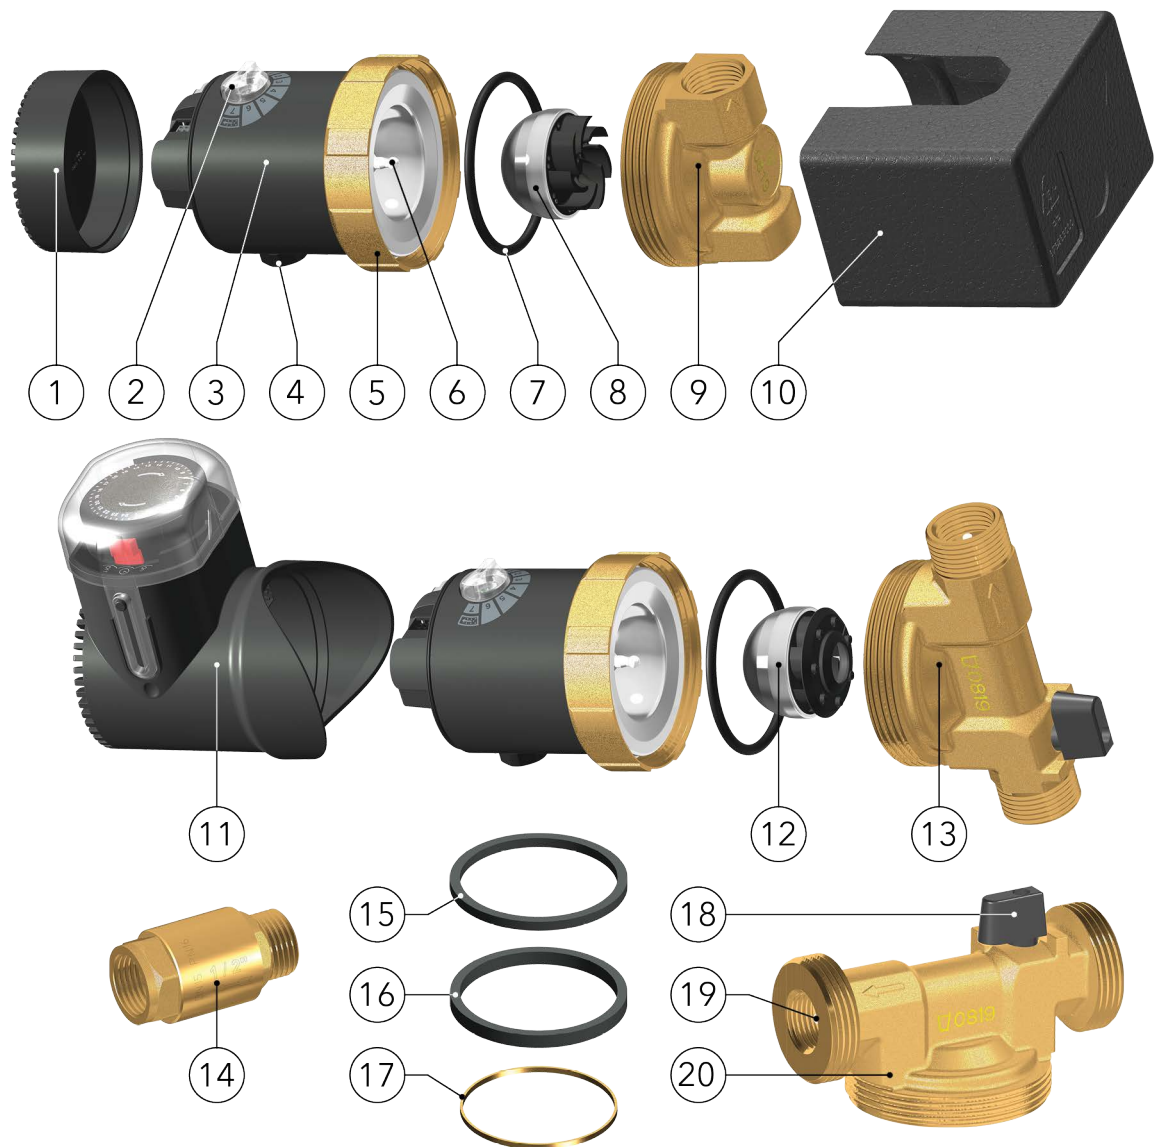

Figure 3
- When using pump models with pump housing code 65B (item 9 in **Figure 3**), use the G1/2 check valve (item 14 in **Figure 3**) supplied in the packaging. This prevents water from flowing through the pump backwards when any faucet is opened, thus causing damage.
- Pumps with pump housings code 110MB (item 13 in **Figure 3**) and code 110LB (item 20 in **Figure 3**) already contain an integrated check valve (item 19 in **Figure 3**) and a ball shut-off valve (item 18 in **Figure 3**) in the pump housings. (The check valve opens and closes automatically; the ball shut-off valve is closed when its handle is perpendicular to the pipe direction).
- With the shut-off valve closed at the suction side of the pump and with the check valve installed at the discharge side, the union nut (item 5 in **Figure 3**) can be loosened, thus the pump motor can be turned in proper position, or even removed for maintenance without completely draining the system.